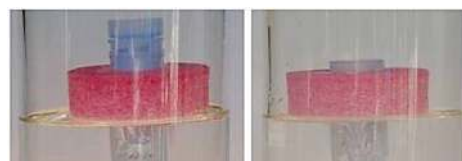

Figure 2: DiaEasy™ Dialysis floating rack in two positions to change the height at which the DiaEasy™ Dialysis tubes are held.
- IMPORTANT: Adjust floating rack height on 15 ml DiaEasy™ Dialyzer tube for upright floating balance during dialysis process. Example: For dialysis of less than 5 ml place the floating rack up to middle the height of the 15 ml DiaEasy™ Dialyzer tube. For dialyses of more than 5 ml adjust the floating rack at the top of 15 ml DiaEasy™ Dialyzer tube (see Figure 2)